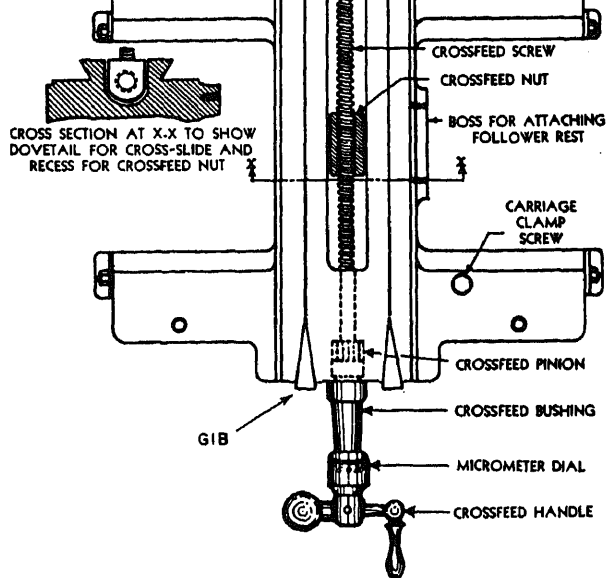

Figure 7-8.—Carriage (top view).
Figure 7-8 shows a top view of the carriage. The wings of the H-shaped saddle contain the bearing surfaces which are fitted to the V-ways of the bed. The crosspiece is machined to form a dovetail for the crossfeed slide. The crossfeed slide is closely fitted to the dovetail and has a tapered gib which fits between the carriage dovetail and the matching dovetail of the crossfeed slide. The gib permits small adjustments to remove any looseness between the two parts. The slide is securely bolted to the crossfeed nut
1. The compound rest **SWIVEL** (2) which can be swung around to any desired angle and clamped in position. It is graduated over an arc of 90° on each side of its center position for ease in setting to the angle you select. This feature is used in machining short, steep tapers such as the angle on bevel gears, valve disks, and lathe centers.
2. The compound rest **TOP**, or **TOPSLIDE** (3), is mounted as shown on the swivel section (2) on a dovetailed slide. It is moved along the slide by the compound rest feed screw turning in nut (4), operated by handle (5), in a manner similar to the cross feed described previously (fig. 7-8). This provides for feeding at any angle (determined by the angular setting of the swivel section), while the cross-slide feed provides only for feeding at a right angle to the axis of the lathe. The graduated collar on the compound rest feed screw reads in thousandths of an inch for fine adjustment in regulating the depth of cut.